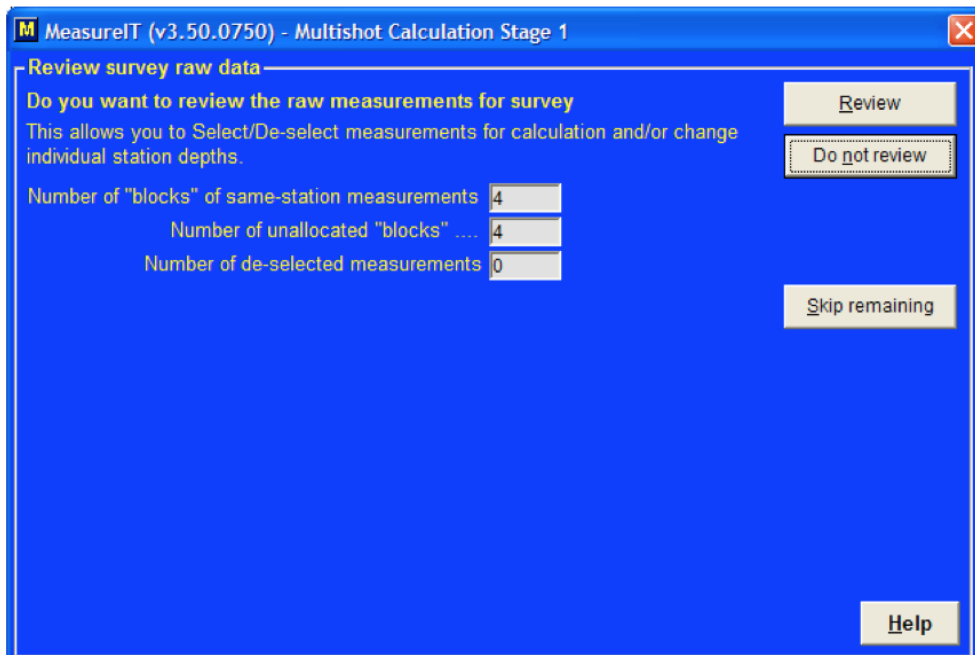

Figure 14 Stage 1 calculation options screen
9. Proceed to the Multishot Calculation Stage 1 screen (Figure 14). Click the 'Do not review' button to skip the data review screens. They are of limited use to us because we are not performing a "traditional" downhole survey..